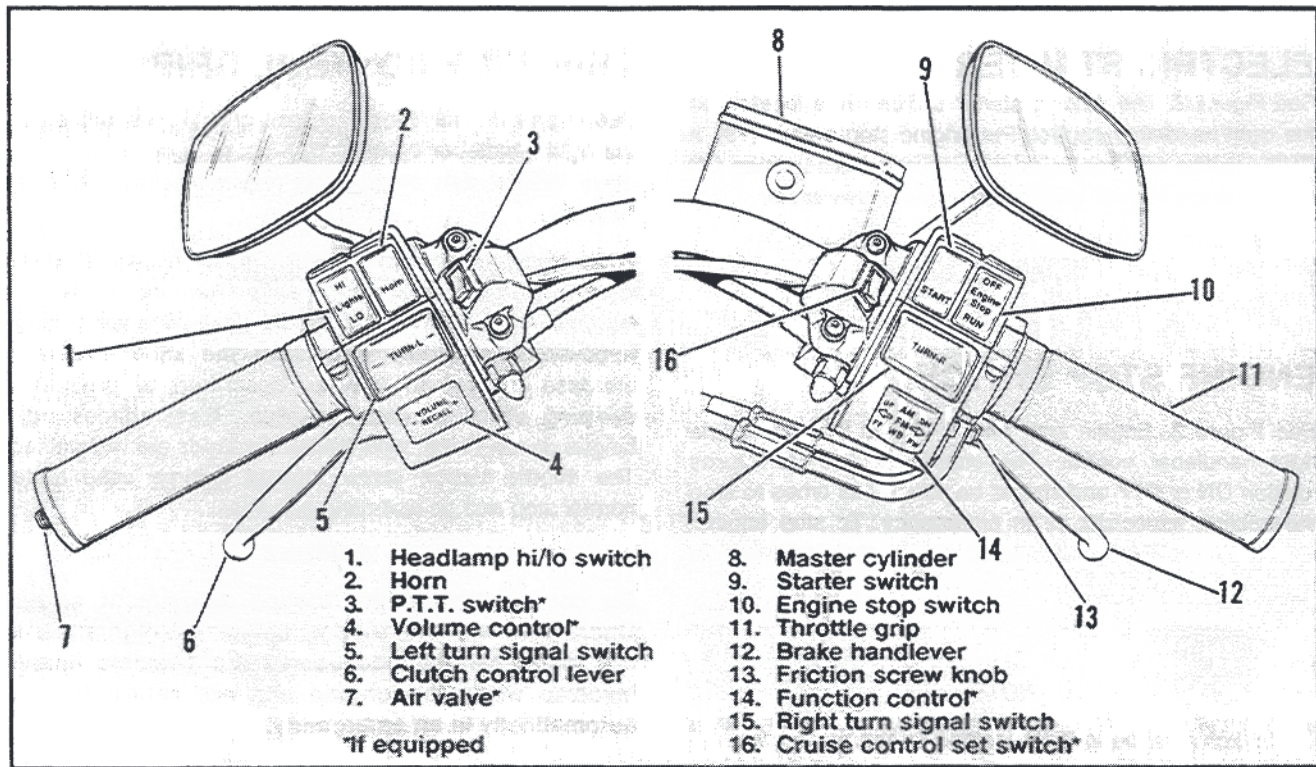

Figure 2. Handlebar Controls
See Figure 2. The electric starter switch (9) is located on the right handlebar control. Put engine stop switch (10) in RUN position and transmission in neutral. Turn ignition ON and push the START switch to operate starter motor.
See Figure 2. Engine stop switch (10) is located on the right handlebar control. The engine stop switch turns ignition ON or OFF and should be used at all times to stop the engine, especially in an emergency. To stop engine, push switch to position marked OFF - then turn key to OFF.
See Figure 2. The throttle control grip (11) is located on the right handlebar control. Turn control grip clockwise to close throttle; turn control grip counterclockwise to open throttle.
See Figure 2. The clutch hand lever (6) is located on the left handlebar where it is operated with the fingers of the left hand. Pull lever in against handlebar grip to disengage clutch; release the lever slowly to its outward position to engage clutch.
The brake pedal controls the rear wheel brake and is located on the right side where it is operated by the right foot. See Figure 2. The brake hand lever (12) controls the front wheel brake and is located on the right handlebar, where it is operated by the fingers of the right hand.
See Figure 2. The horn is operated by the horn switch (2) on the left handlebar control.
See Figure 2. The headlamp dimmer switch (1) on the left handlebar controls the headlamp high and low beams.
## Controls (Figures 2 and 5 and Table 2)
See Figure 2. The right handlebar turn signal switch (15) operates the right front and right rear flashing lamps. The left handlebar turn signal switch (5) operates the left front and left rear flashing lamps. Front-turn signal lamps also function as running lamps.